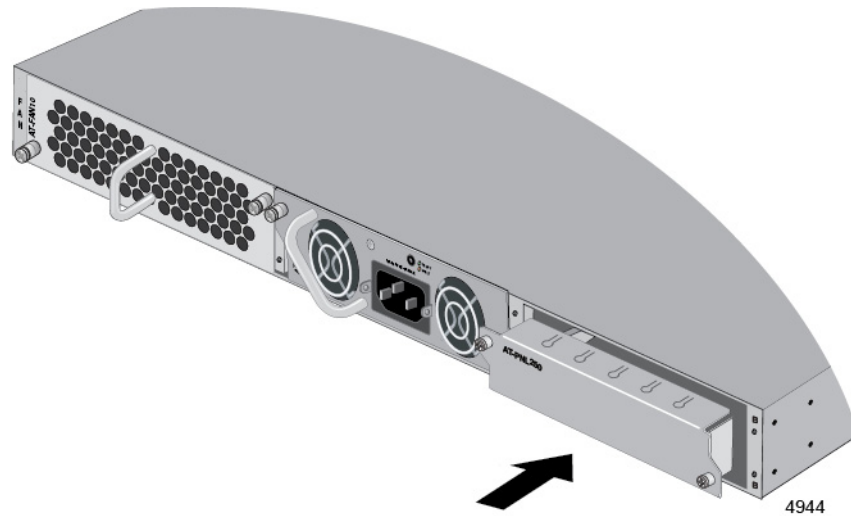

Figure 23. Installing a Blank Panel on a Power Supply Slot
1. Position the appropriate blank panel over the empty power supply slot. Use the PNL800/1200 Blank Panel included in the accessory kit if the switch has only one PWR800 or PWR1200 Power Supply. Use the PNL250 Blank Panel if the switch has one PWR150, PWR150R, PWR250, or PWR250-80 Power Supply. Refer to Figure 23.